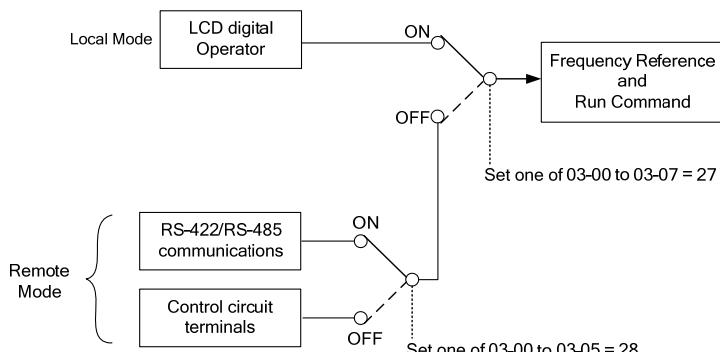

Figure 4.3.23 Remote mode operation selection
(30) Local/Romote selection (03-0X=28)
- When one of 03-02~03-05=28 (Remote mode selection) · inverter can switch between external terminal source (S1~S6) or communication (RS-485) source. Please refer the figure 4.3.23 .